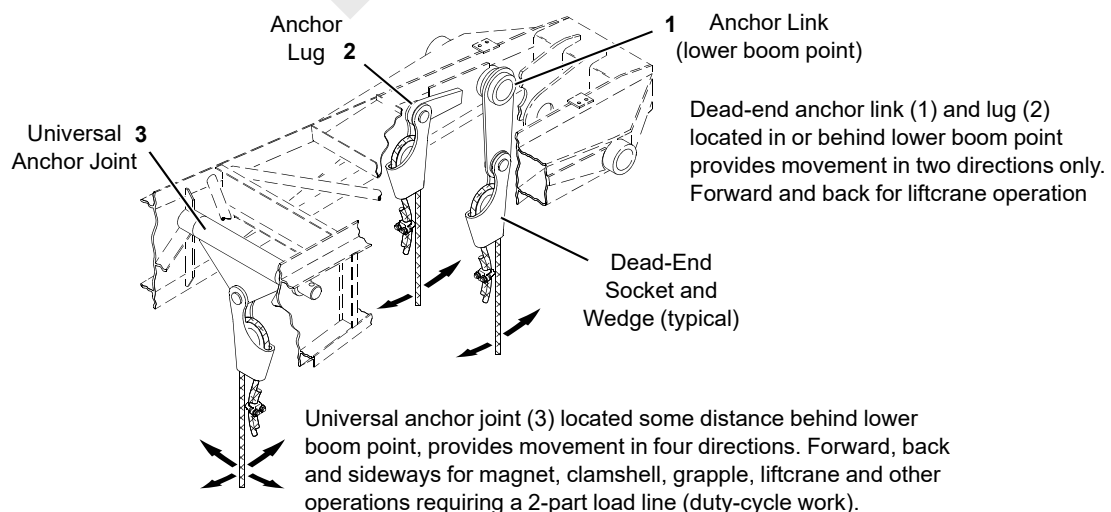

FIGURE 4-67
The dead-end socket and wedge can be anchored to any of the following locations in the boom and jib point, depending on the type of operation (see Figure 4-67):
**NOTE:** Movement of the dead-end socket on the link or lug (1 and 2 above) is in two directions only – forward and back (see Figure 4-67). Movement of the dead-end socket on the universal anchor joint (3 above) is in four directions – forward, back and sideways (see Figure 4-67).